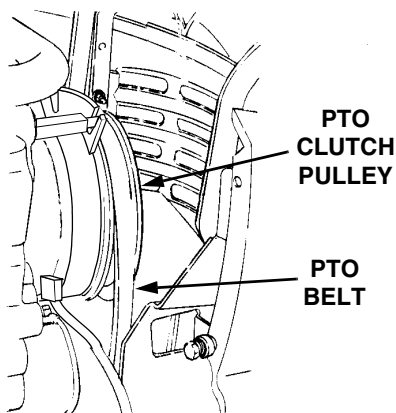

Figure 35
11. Pass the PTO belt upward inside the front of the tractor frame and install the forward end of the belt onto the PTO clutch pulley on the front of the engine. Ensure that the narrow side of the PTO belt engages the groove of the clutch pulley (See Figure 35).